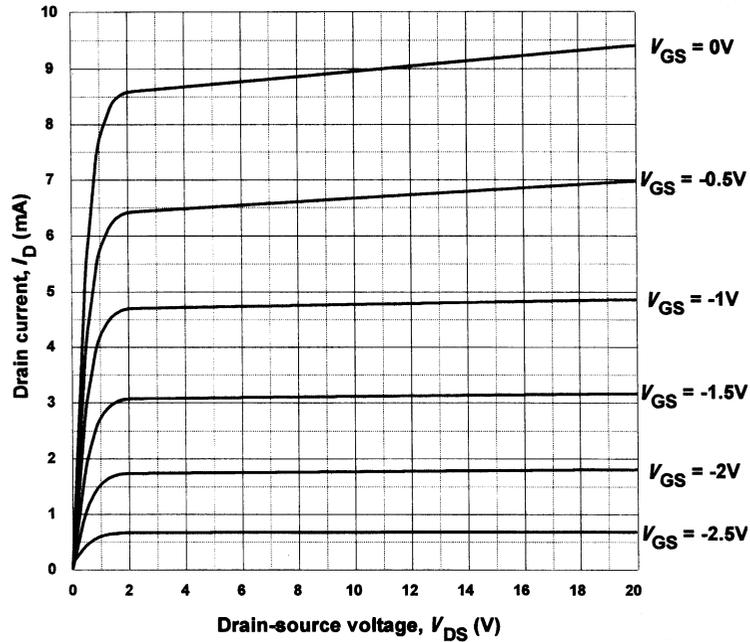

Figure A2.18
38. The output characteristics of a field effect transistor are shown in Fig. A2.18. If the transistor operates with  $V_{DD} = 18\ \text{V}$ ,  $R_L = 3\ \text{k}\Omega$  and  $V_{GS} = -1.5\ \text{V}$  determine: